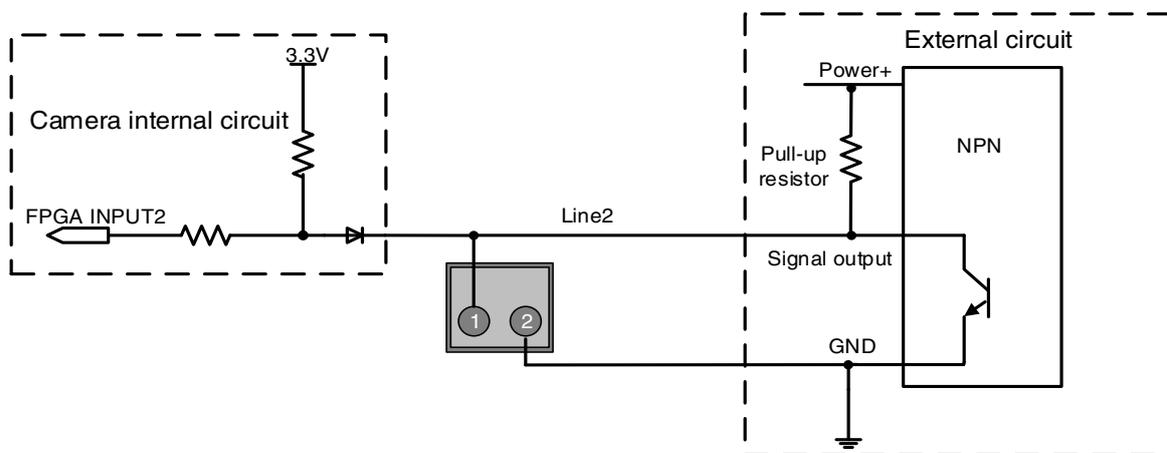
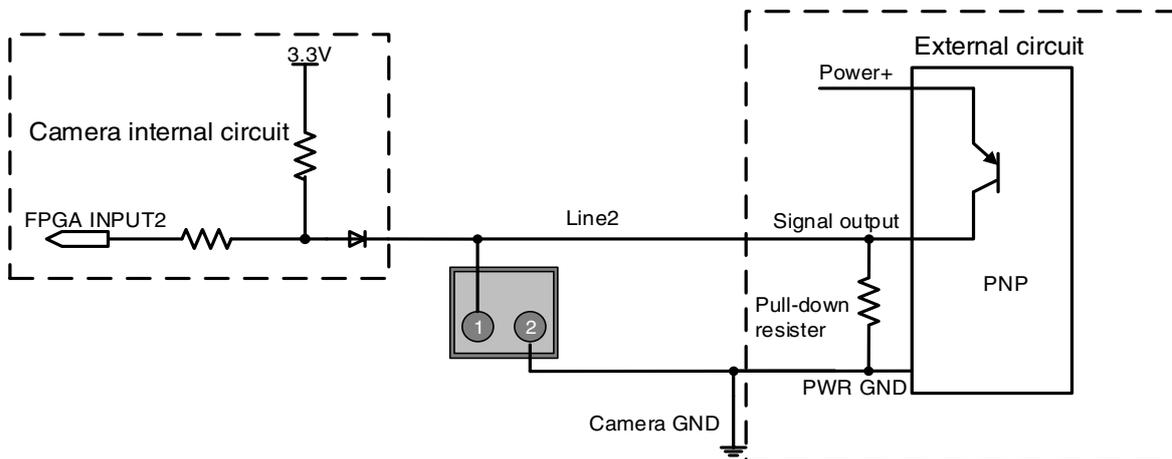

Figure 7-23 NPN photoelectric sensor connected to Line2 input circuit
Figure 7-24 PNP photoelectric sensor connected to Line2 input circuit
- When input of Line2 is high, input current is lower than 100μA. When input of Line2 is low, input current is lower than -1mA. The connection method between Line2 and NPN/PNP photoelectric sensors is shown in Figure 7-23 and Figure 7-24. The relationship between the pull-up resistor value and the external input voltage is shown in Table 7-6